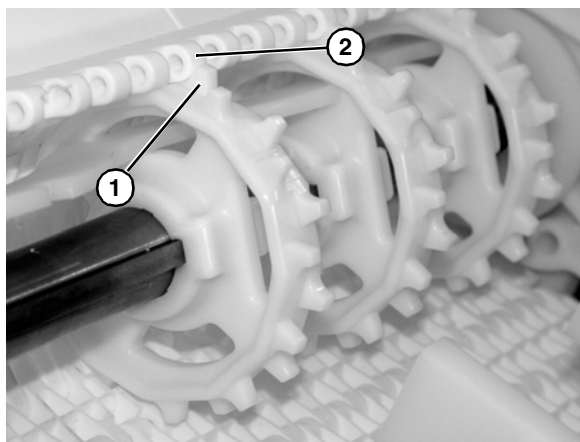

Figure 28
7. Wrap the belt around the drive end of the conveyor, making sure the sprocket teeth have engaged the belt, with concave teeth (**Figure 28, item 1**) mating with rounded section (**Figure 28, item 2**) of belt.